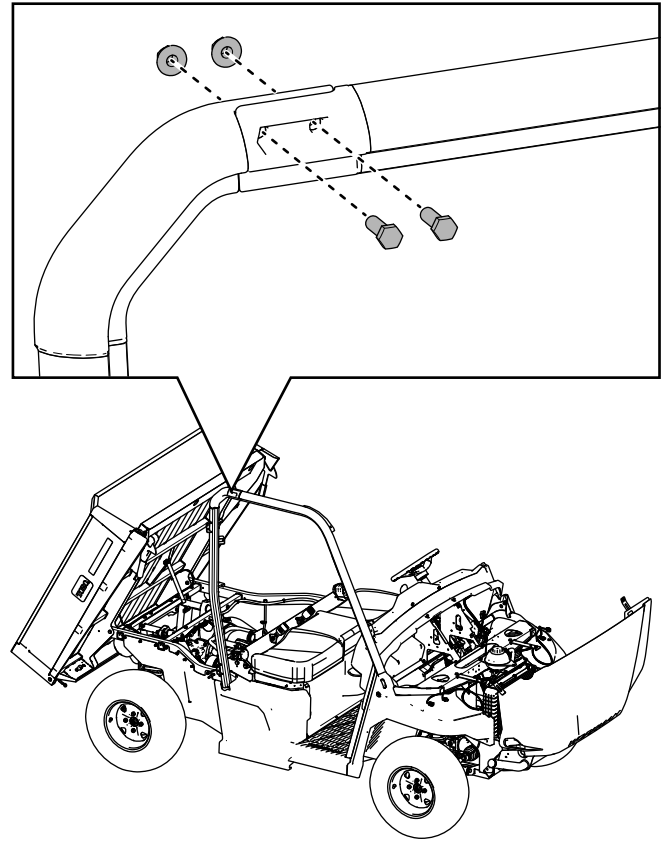

Figure 14
8. Loosely secure the right, front roll bar assembly to the right, rear roll bar assembly using 2 hex-head bolts (3/8 x 1-1/4 inches) and 2 locknuts (3/8 inch) as shown in Figure 14.